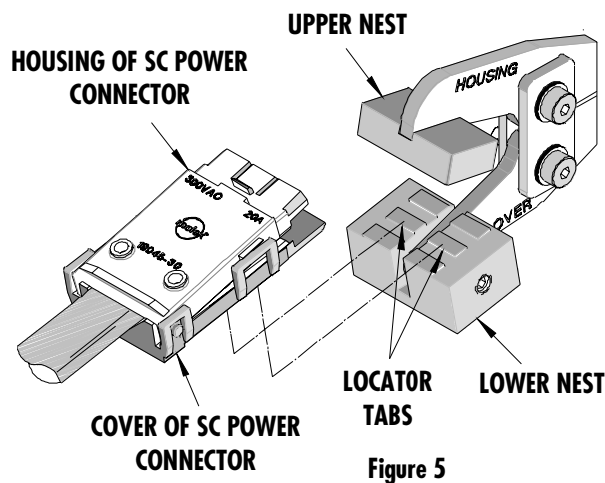

Figure 5
- Place the connector assembly on the lower nest by positioning the connector slots over the lower nest locator tabs as shown in Figure 5.